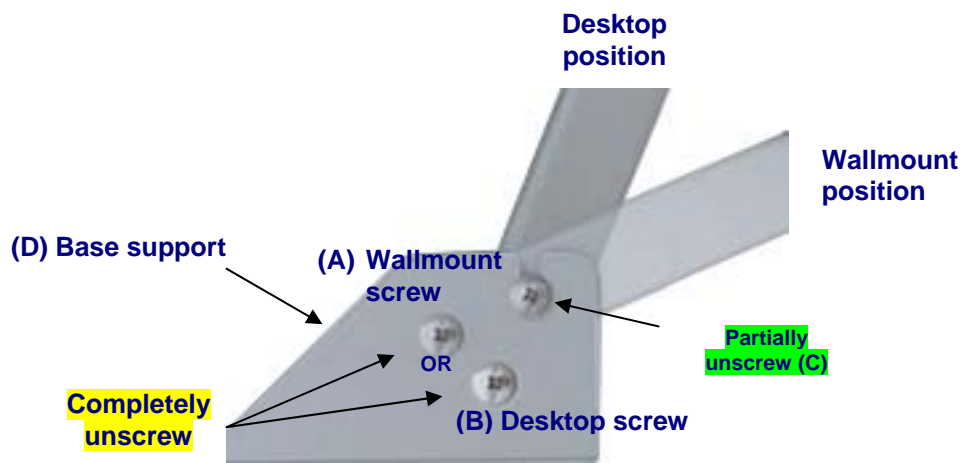

Figure 1
2. On the base support (D), **completely unscrew** screw A (wall mount) or the screw B (desk top). **Partially unscrew** the screw C (see figure 1).
3. Separate the base support (D) from the TermiCom XPe.
- Fix the base support (D) at the chosen emplacement.